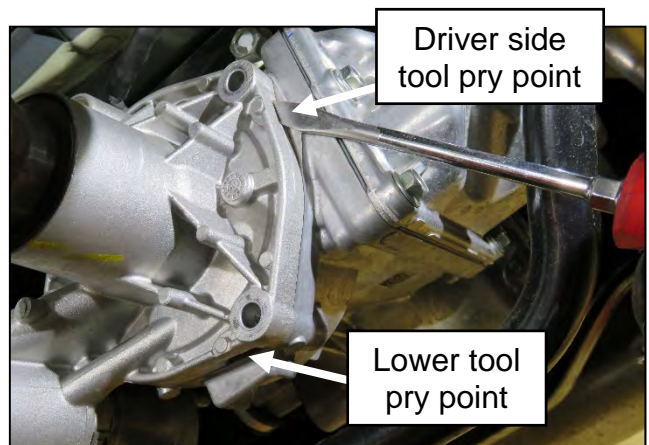

Figure 16
23. Remove the AWD coupler from the differential. If necessary, there are three (3) tool pry points where light pressure can be applied to remove the AWD coupler from the differential.
- Figure 16 shows two (2) of the three (3) tool pry points.